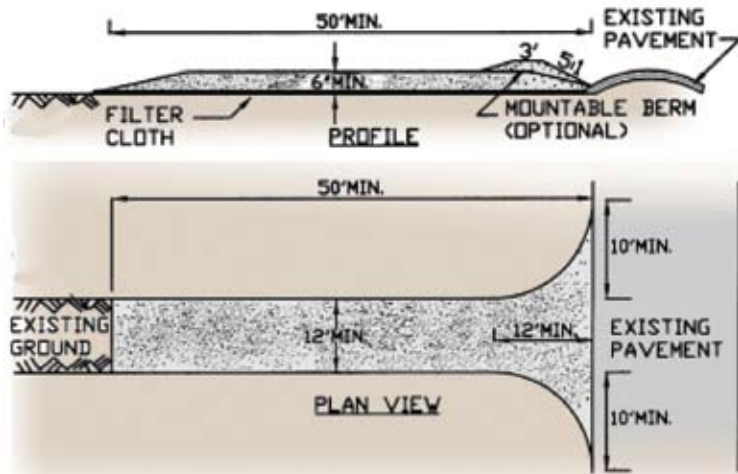

Figure 2.1. Stabilized construction entrance with optional mountable berm.
- Piping of surface water under entrance or a moundable berm shall be provided as required (Figure 2.1).